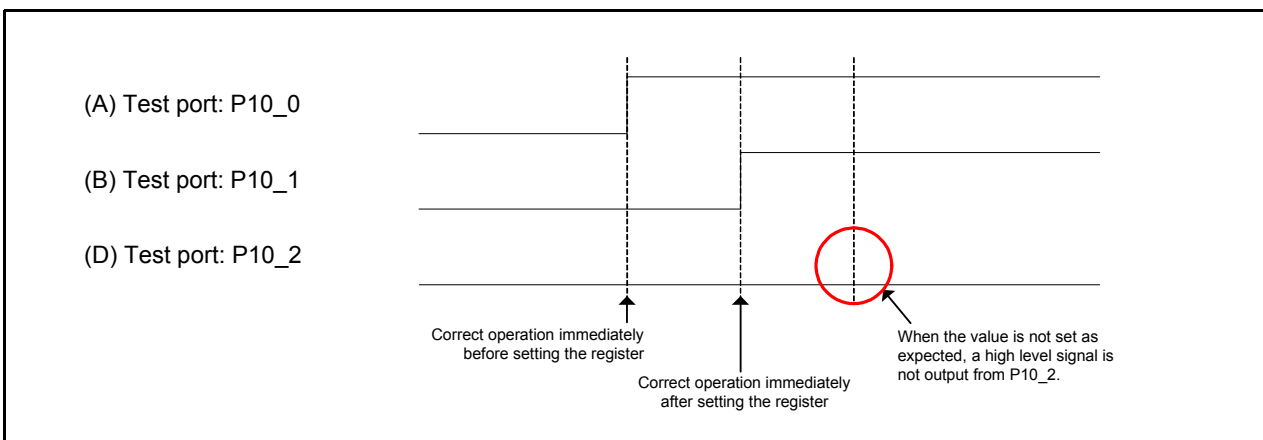

Figure 4.5 Waveform when the Value is not Set as Expected
A high level signal is not output from test port (D) as shown in Figure 4.5. The register may be write protected or the specific setting procedure may have to be followed. Refer to the User's Manual: Hardware to confirm the condition for the register setting and its setting procedure.